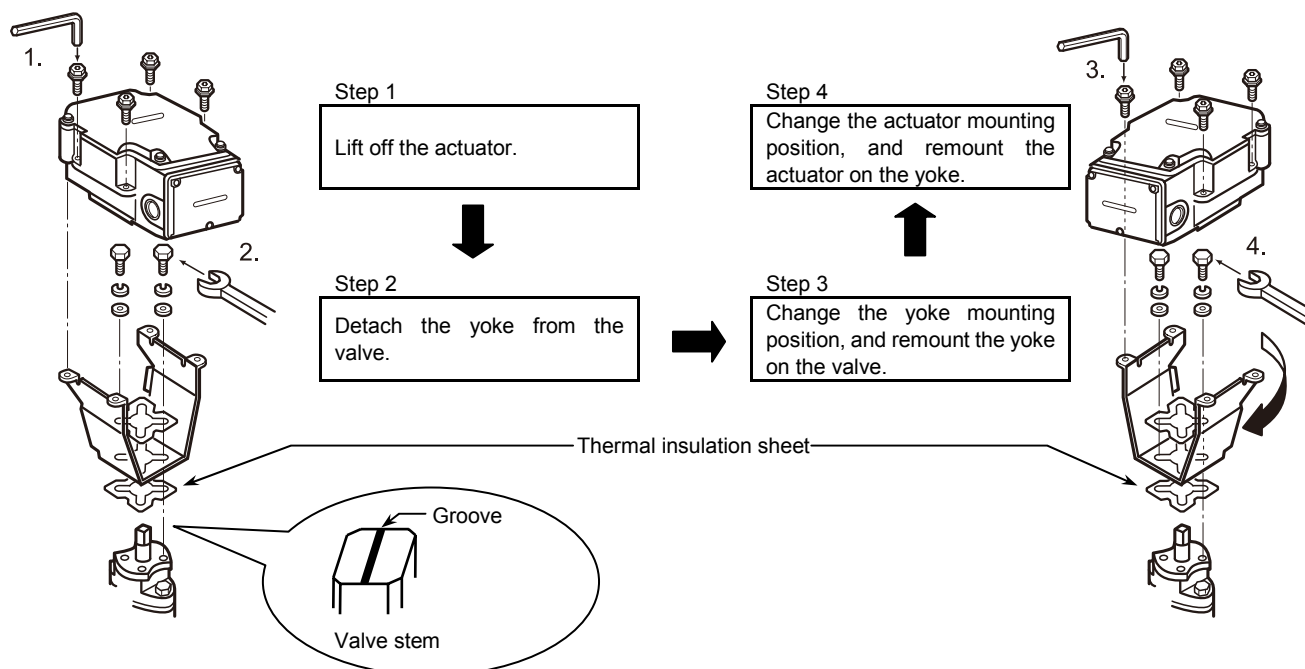

Figure 6. Changing the actuator mounting position
- 1) Remove the screws connecting the actuator and the yoke. Lift the actuator and detach it from the yoke. Make sure that the groove on the top of the valve stem is parallel to the pipes (indicating the valve in 100 % position). <Step 1 in Fig. 6>
- 2) Remove the screws connecting the yoke and the valve. <Step 2 in Fig. 6>
- 5) Before fixing the yoke to the valve with the screws, check that the actuator engages correctly with the valve stem (at the new mounting position). Check that the pointer of the actuator indicates 100 % position as well. Then, fix the yoke to the valve. <Step 3 in Fig. 6>
- 6) Mount the actuator. Place the actuator, with its facing direction changed, on the yoke, and fix them with the screws. <Step 4 in Fig. 6>